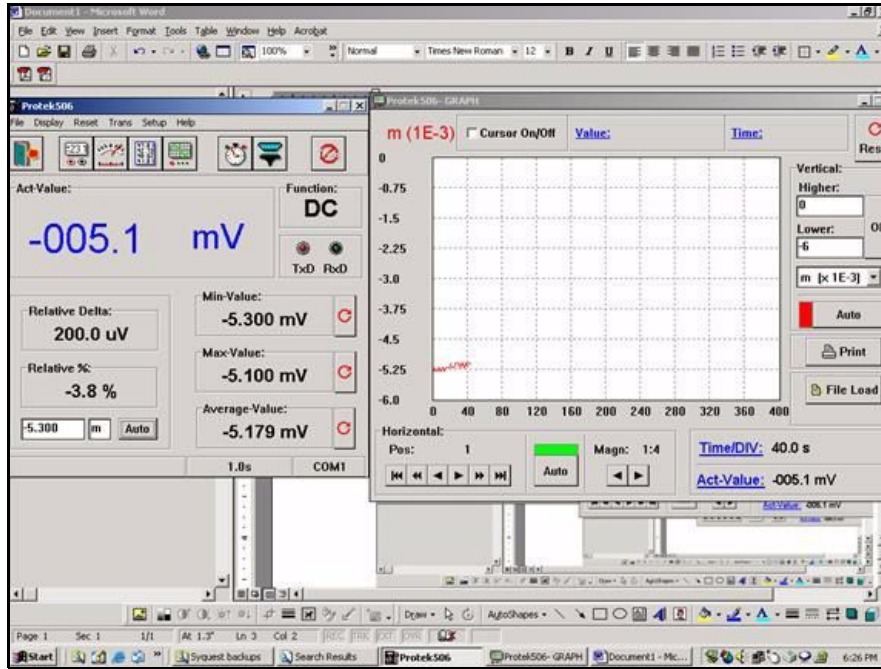

Figure A.3 Example: Vacuum testing a 4700 GPS receiver (first reading)
- Figure A.3 shows what the screen initially displayed.